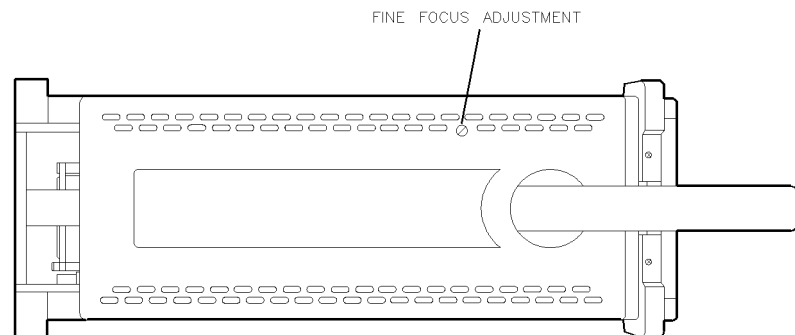

Figure 2-3. Adjusting the fine focus.
2. Use an adjustment tool or small screwdriver to access the fine-focus adjustment. Refer to Figure 2-3. Adjust for a focused display.